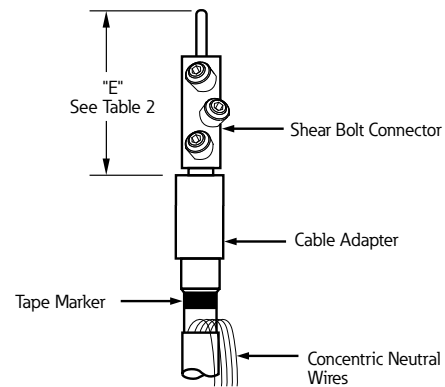

Figure 12. Line illustration for dimensional check.
- Length should be no longer than "E" dimension. (Refer to Figure 12 and Table 2.)